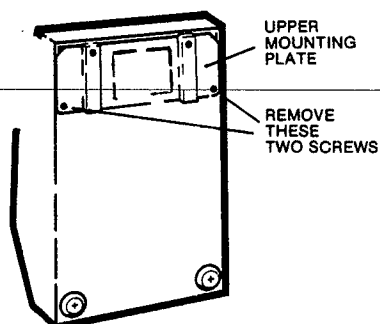

FIG. 2A. REMOVING MOUNTING PLATE
**STEP 1.** Remove the upper mounting plate on back of heater by moving the two screws which secure it. (Figure 2A)